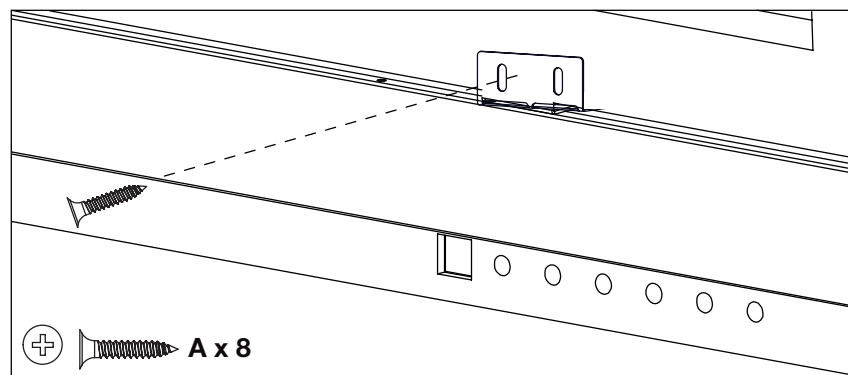

Fig. 3
7. Secure the appliance to the rough-in framing by installing 8 screws (supplied) through the metal brackets (**Fig. 3**).